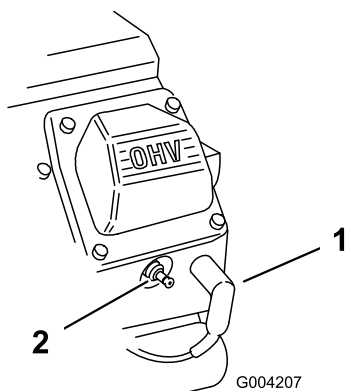

Figure 23
2. Pull the wires off of the spark plugs (Figure 23).
3. Push the wires onto the spark plugs (Figure 23).